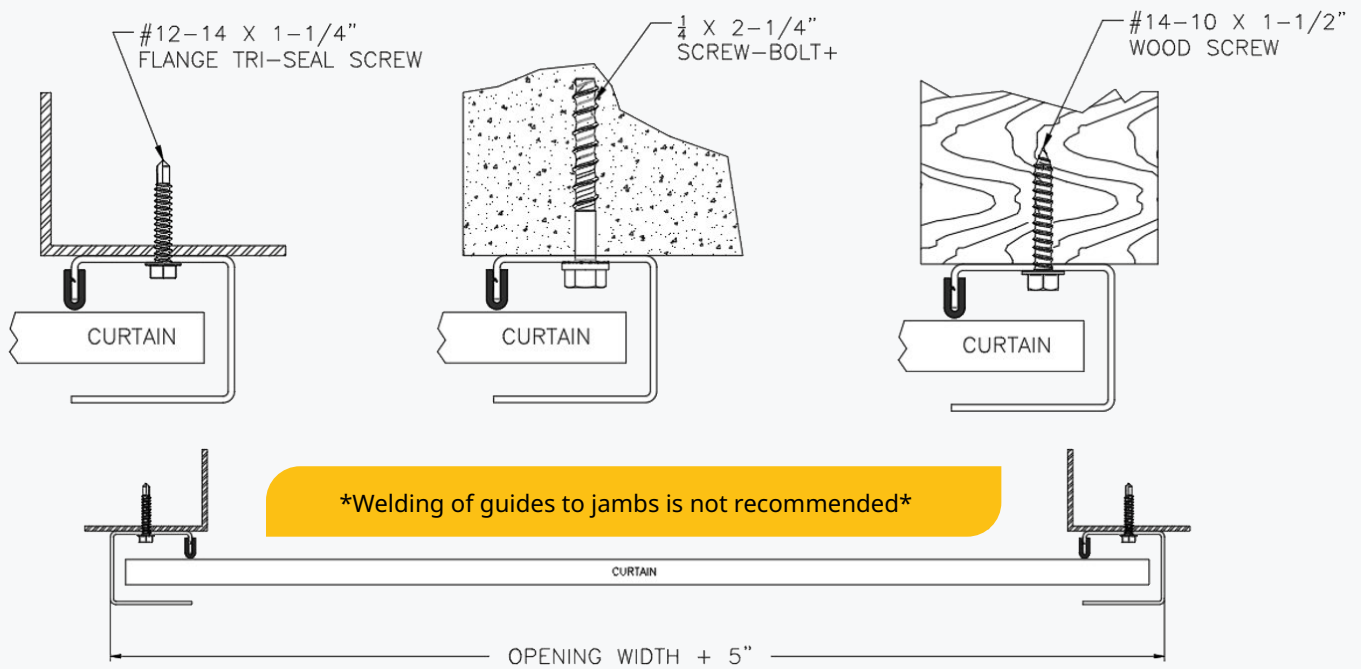

figure 17
- ◆ The guides should be positioned centered on the opening spaced curtain width +1/2" apart, measured from back of guide to back of guide. Both guides must be plumb and level. See Figure 17.